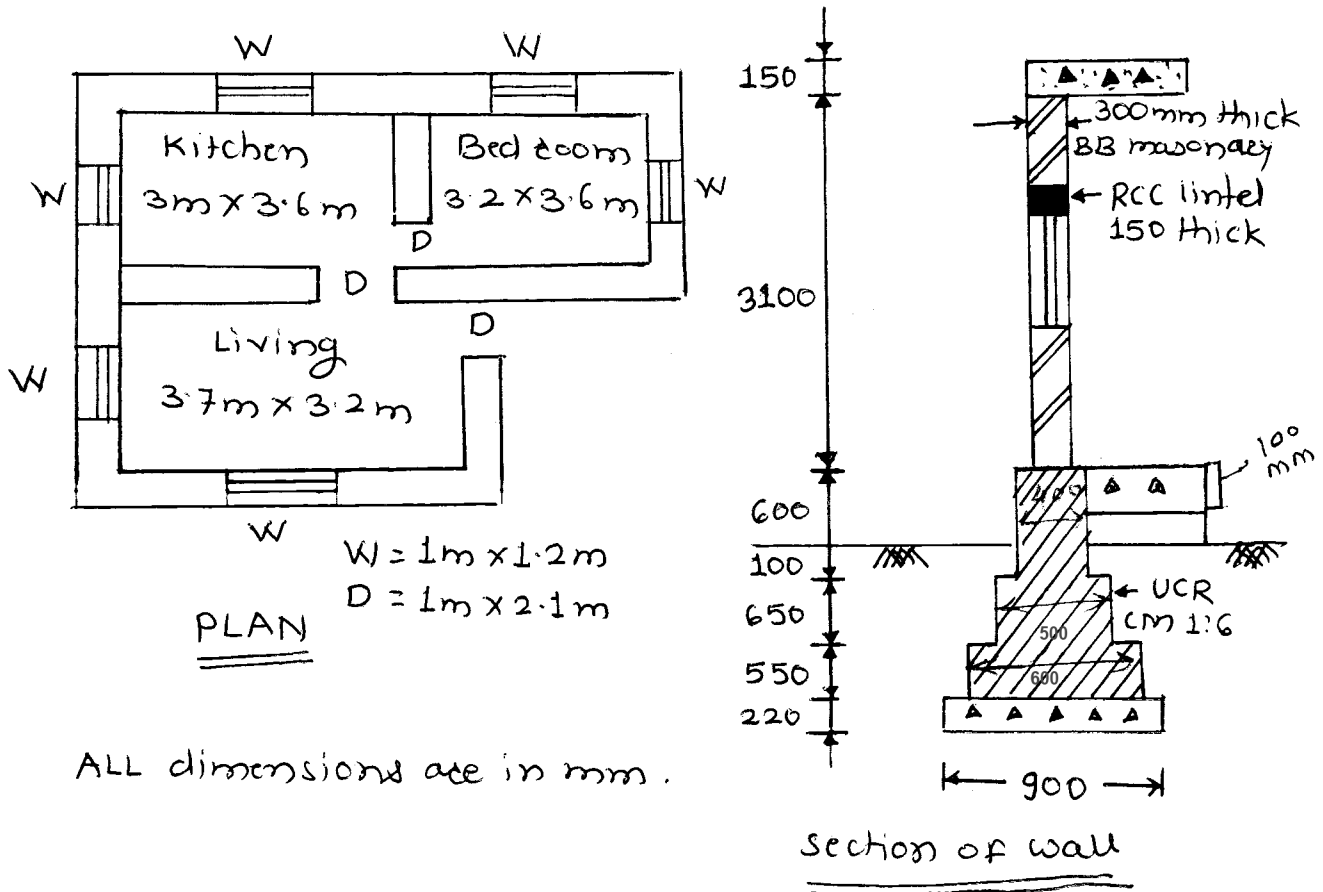

Fig. No. 1
- Figure No. 1 shows a plan of building and section of a wall. Calculate following quantities by any method.
- Calculate the following quantities from Fig. No. 1)